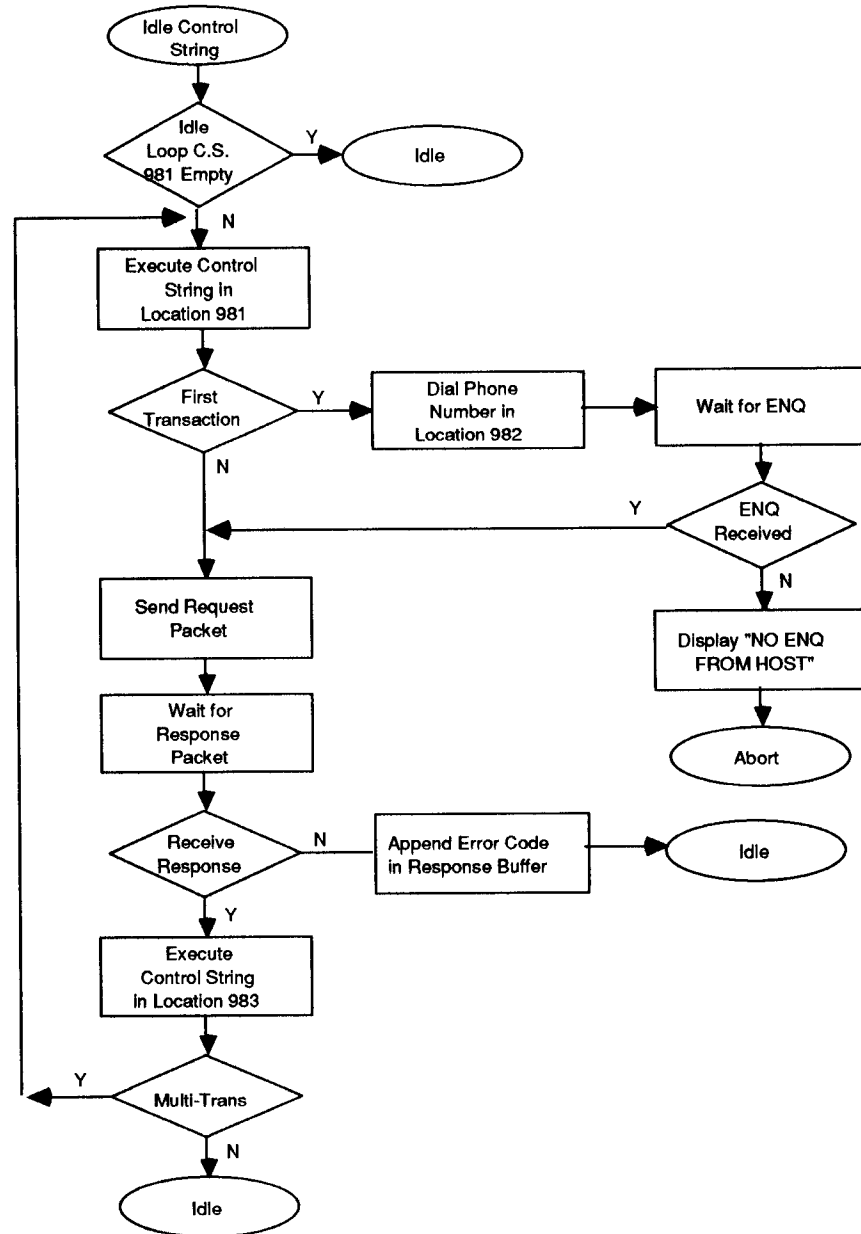

Figure 2-8. Idle Loop Control String
- The idle loop control string. (See Figure 2-8, "Idle Loop Control String.") If the idle control string is enabled, the terminal will timeout, set in memory location 980/0980 then execute the idle loop control string.
The Idle Loop Control String can be used for the terminal's unattended operations. For example, if the terminal is left inactive for a set number of seconds, it can be programmed to check the time, beep or upload a batch at a preset time. As shown in Figure 2-8, "Idle Loop Control String":